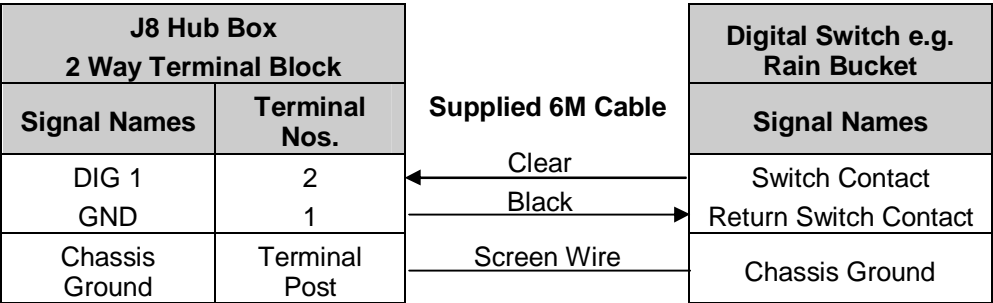

Figure 10 MetPak RG DIG 1 Rain Gauge Connections
4. Connect the cable as detailed in Figure 10.